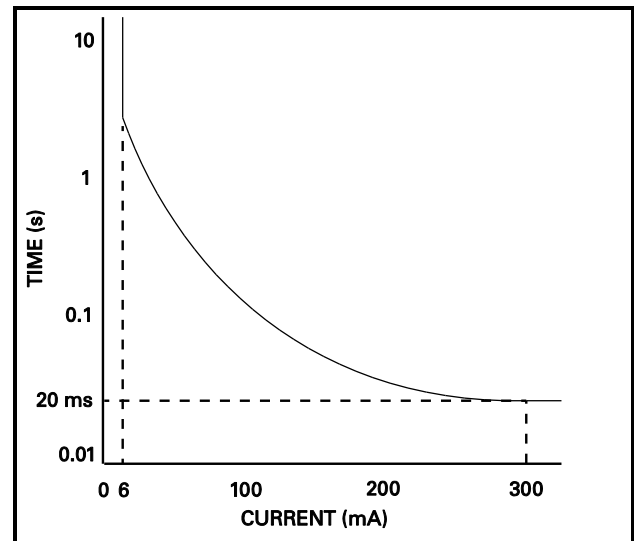
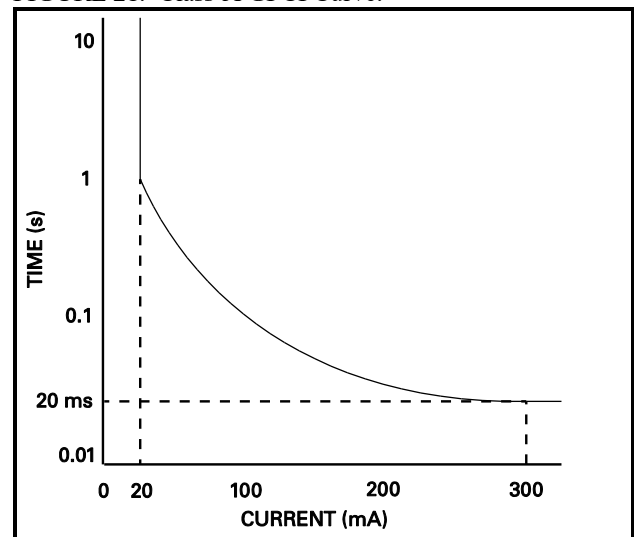

FIGURE 21. Class-A GFCI Curve.
FIGURE 22. Class-C and -D SPGFICI Curve.
Fig. 21 shows the Class-A GFCI maximum-trip-time-versus-current curve defined by UL 943 (with the above formula); UL 943 also defines a limit to the formula, with a minimum required trip time (or fastest trip speed) of 20 ms, which occurs at about 300 mA of ground-fault current (I) per the formula. Class C and D SPGFICI must operate within this same curve, except that their operating threshold is 15 to 20 mA (non-adjustable). See Fig. 22. The SB5000 EGFPDs described in this manual also operate within the Class-A formula, but have a 6- to 100-mA threshold setting range.